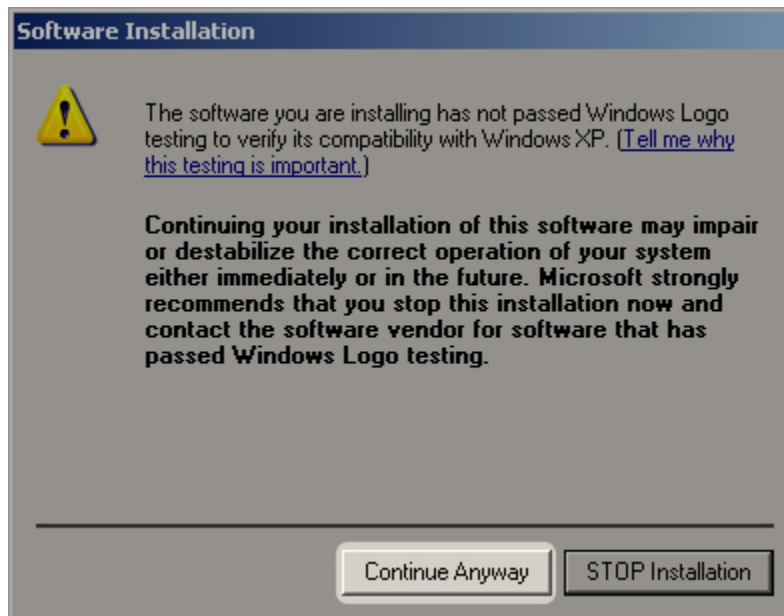

Figure 3.1: Instrument Driver Installation non-WHQL Warning Screen
- Note that if Windows is configured to warn when unsigned (non-WHQL certified) drivers are about to be installed, the screen shown in Figure 3.1 will be displayed. Click on "Continue Anyway" to continue with the installation. If Windows is configured to ignore file signature warnings, no message will appear.